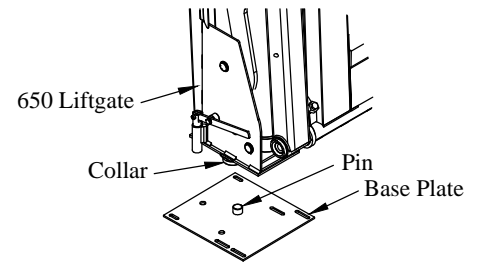

Figure 8: Base plate pin location.
- 2. Position** the liftgate collar onto the base plate pin (Figure 8).